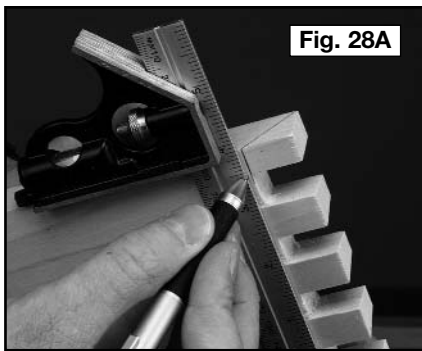

Fig. 28A
Step 1 - On the inside surface, use a square and pencil to draw a line from the base of the pins to the edge where the miter will be cut (Fig. 28A).